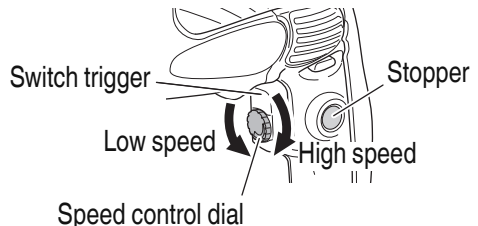

Fig. 14
- The desired rotation speed can be pre-selected with the speed control dial. Turn the speed control dial clockwise for higher speed and counterclockwise for lower speed. (Fig. 14)